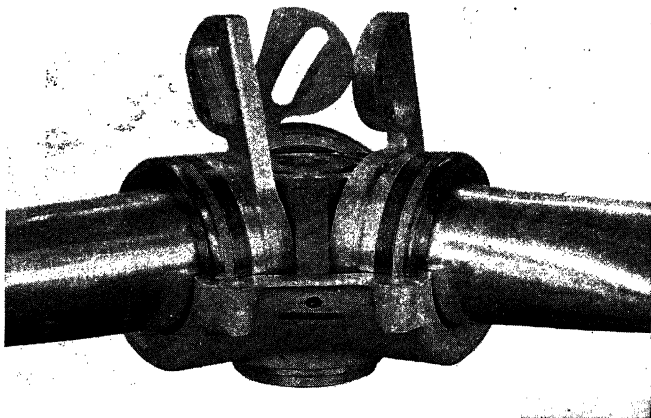

Fig. 12.—Thrust bearing retainers between the thrust races.
14. Place the thrust bearing retainers in position between the thrust races (Fig. 12).